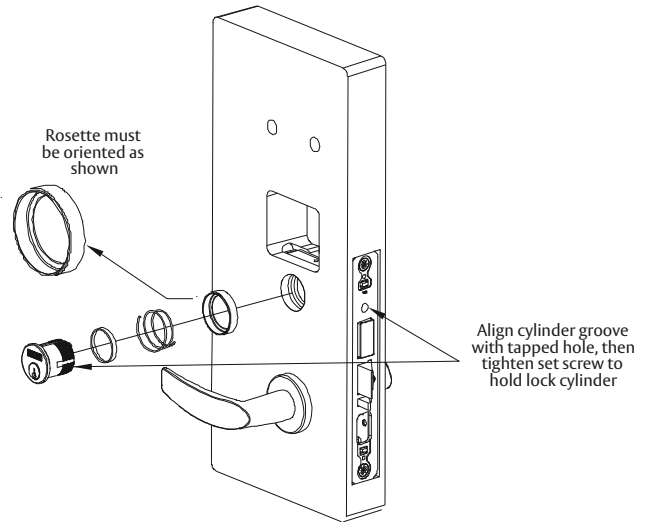

Figure 10A
Note: For proper cylinder/parts orientation see Figure 10A. Slide cylinder through the spring and rosette/collar and screw into lockbody, rotating the cylinder clockwise.
**PERSONA PG Controller DIP Switch Settings (Fig 10A):**